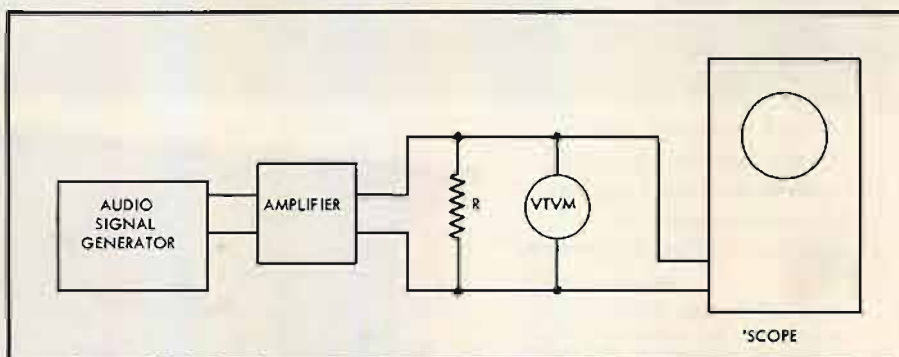

Fig. 1. Set-up to check power output from audio amplifier. Waveform can be observed on the 'scope.
**COMPACT** By utilizing the exclusive *dual voice coil* feature of the C-12HC woofer, only one bass enclosure and woofer are required to handle the entire low frequency range of both stereo channels. Extended, undistorted bass is superbly reproduced by making use of the RRL enclosure design so successfully employed in University's Ultra Linear Response systems. See fig. 1.
known value across the output terminals to represent the speaker load. This is illustrated in Fig. 1.